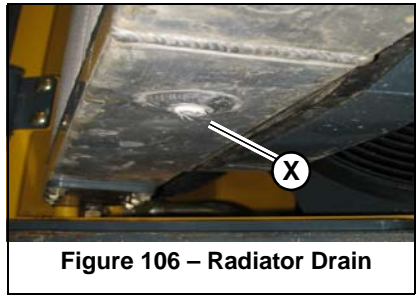

Figure 106 – Radiator Drain
5. Remove radiator drain plug (X, Figure 106) underneath the radiator and allow the coolant to drain into the container.